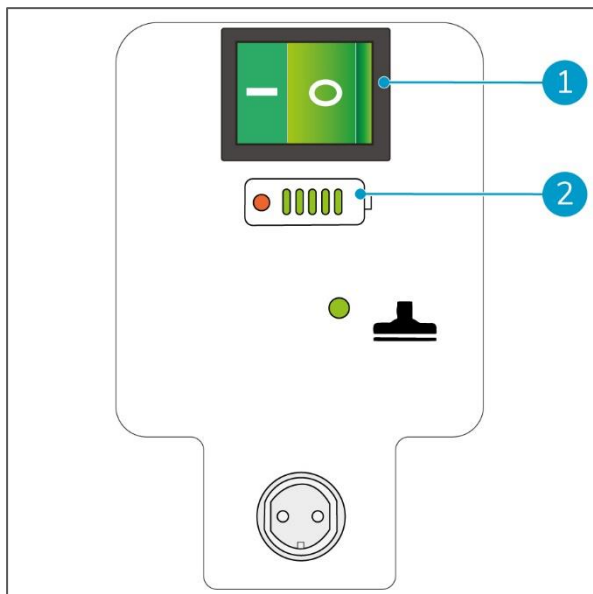

Figure 17
2. Press the ON/OFF switch (Figure 17, pos 1) to turn on the i-vac 9B®. The green light in the ON/OFF switch will go on.
3. Check the battery power status display below the ON/OFF switch (Figure 17, pos 2). See section 2.1.
4. Press the ON/OFF switch (Figure 17, pos 1) to turn off the i-vac 9B.